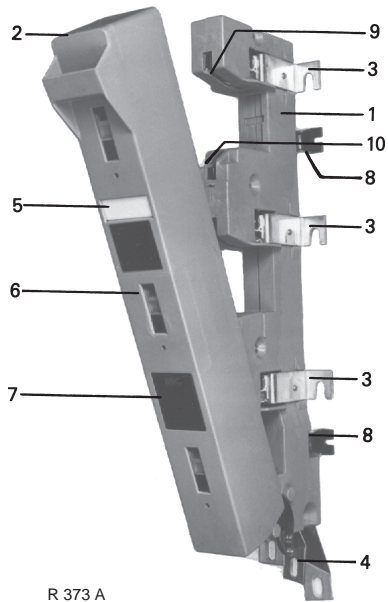

Fig. 3
The apparatus may be mounted on racks and boards and in cabinets by means of the mounting feet (see Fig. 3 pos 8 and the dimensional drawings).
- SLBM(fig. 3)